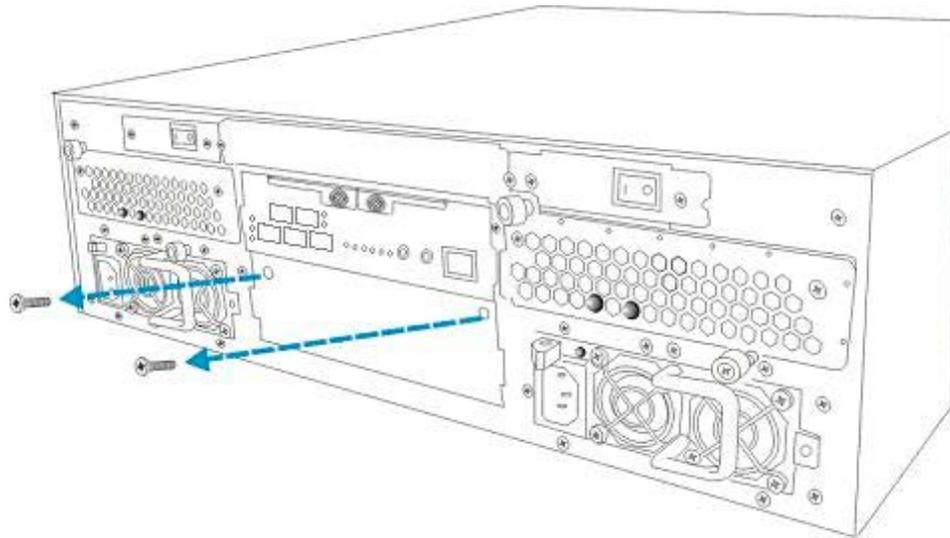

Figure 5-11: Remove the Metal Sheet Retention Screws
- Step 3. Remove the metal plate retention screws.** In the single-upgradeable models, a metal sheet is placed over the second controller bay and must be removed. To remove the sheet, remove the two (2) retention screws that secure the sheet to the chassis. (See *Figure 5-11*)